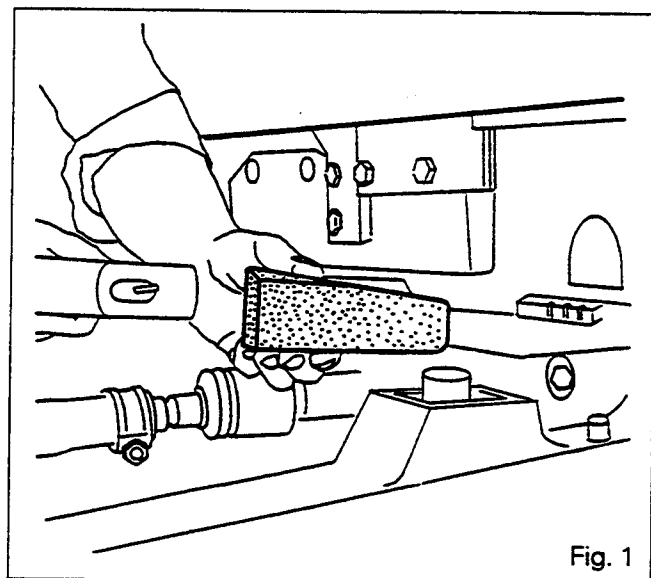

Fig. 1
10. Immobilise the tractor. Apply the handbrake. Position wedges between the frame and the front axle (Fig. 1).